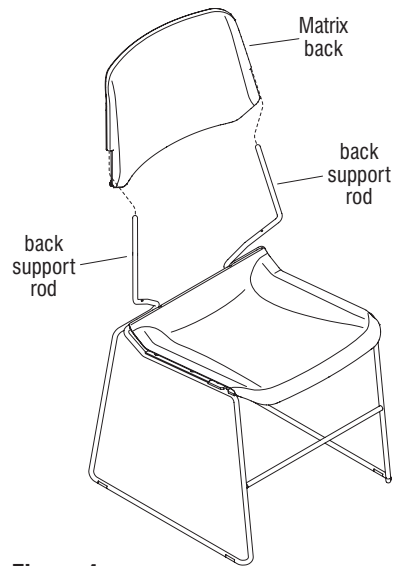

Figure 4
6. Place the chair frame upright on the floor, flex the Matrix back to help align the holes in the back with the back support rods, then slide the new Matrix back onto the back support rods until the bottom of the back rests firmly against the wire frame (Figure 4).